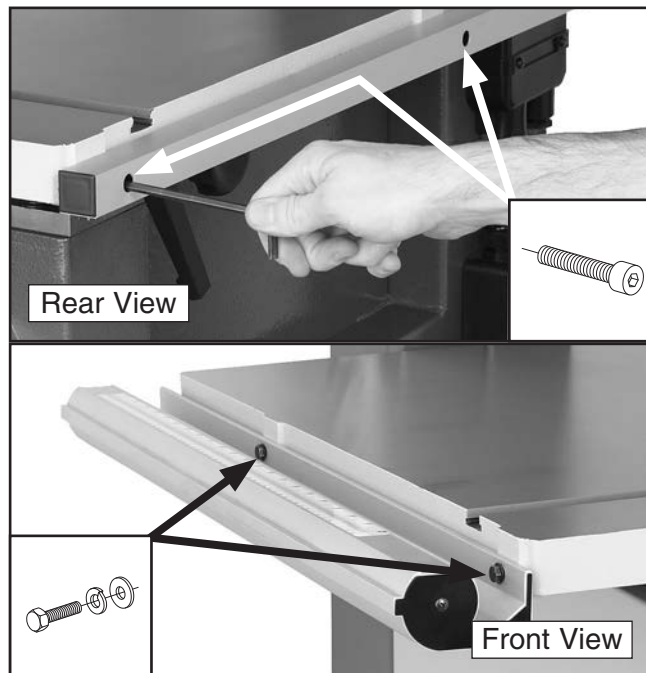

Figure 11. Rail installation.
13. Attach the rear rail to the table with the two M6-1 x 16 cap screws (see **Figure 11**).
14. Attach the front rail with the M6-1 x 20 hex bolts, lock washers, and flat washers as shown in **Figure 11**.